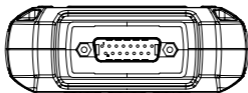

Figure 2.1.2
- DB15 Male Connector: The connector is for you to connect the OBD-II diagnostic cable and battery test cable. (See Figure 2.1.2)